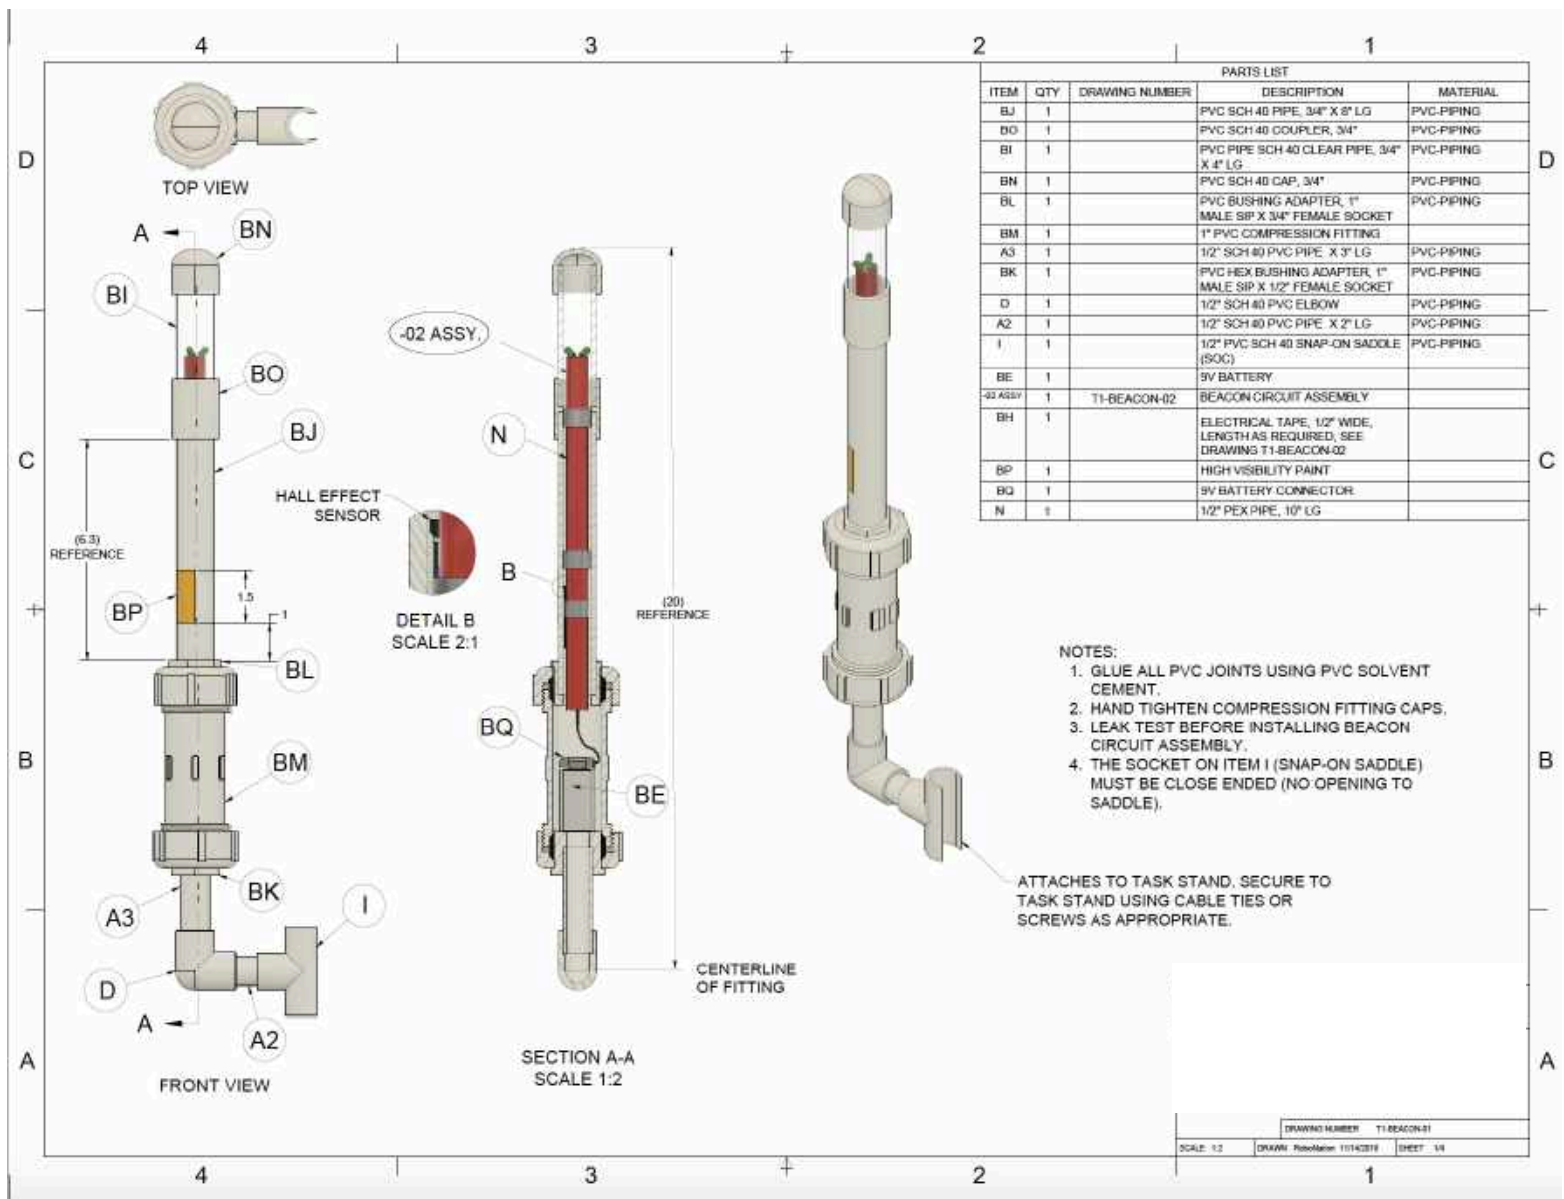

Figure 3.9 Drawing T1-Beacon-01
11. Glue items BN, BI, BO, and BJ with PVC solvent cement. Follow manufacturer's recommended procedures and safety practices for gluing pipes and fittings. Items BK, A3, D, A2, and I (seen in Figure 3.9 lower section Front View) are also glued, but are not part of the Beacon Internal Assembly.